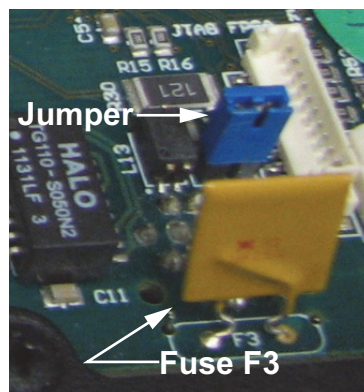

Figure 6 - Blue Jumper on Main Circuit Board, Before New CPU Module Installation (left) and After (right)
3. Beside the **F3** position, ensure the blue jumper is upright. See Figure 6.
- The new CPU module fits around the blue jumper on the main circuit board, so that the jumper remains upright. See Figure 6.